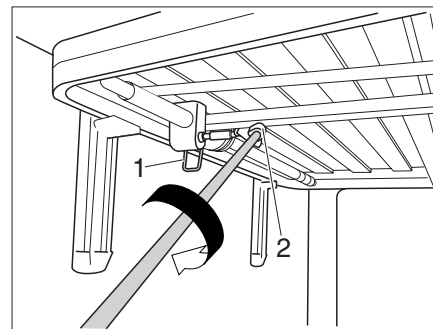
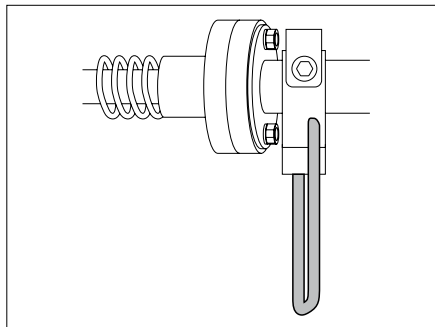

Fig. 92 Height adjustment
Fig. 93 Locking lever in the released position
- ▶ Loosen the locking lever (Fig. 92,1). The bed can now be adjusted (Fig. 93).
- ▶ Slide the crank into the magnetic square recess (Fig. 92,2). The height of the bed can now be changed.
- ▶ Pull the crank out of the square recess (Fig. 92,2) and keep it in the holder.